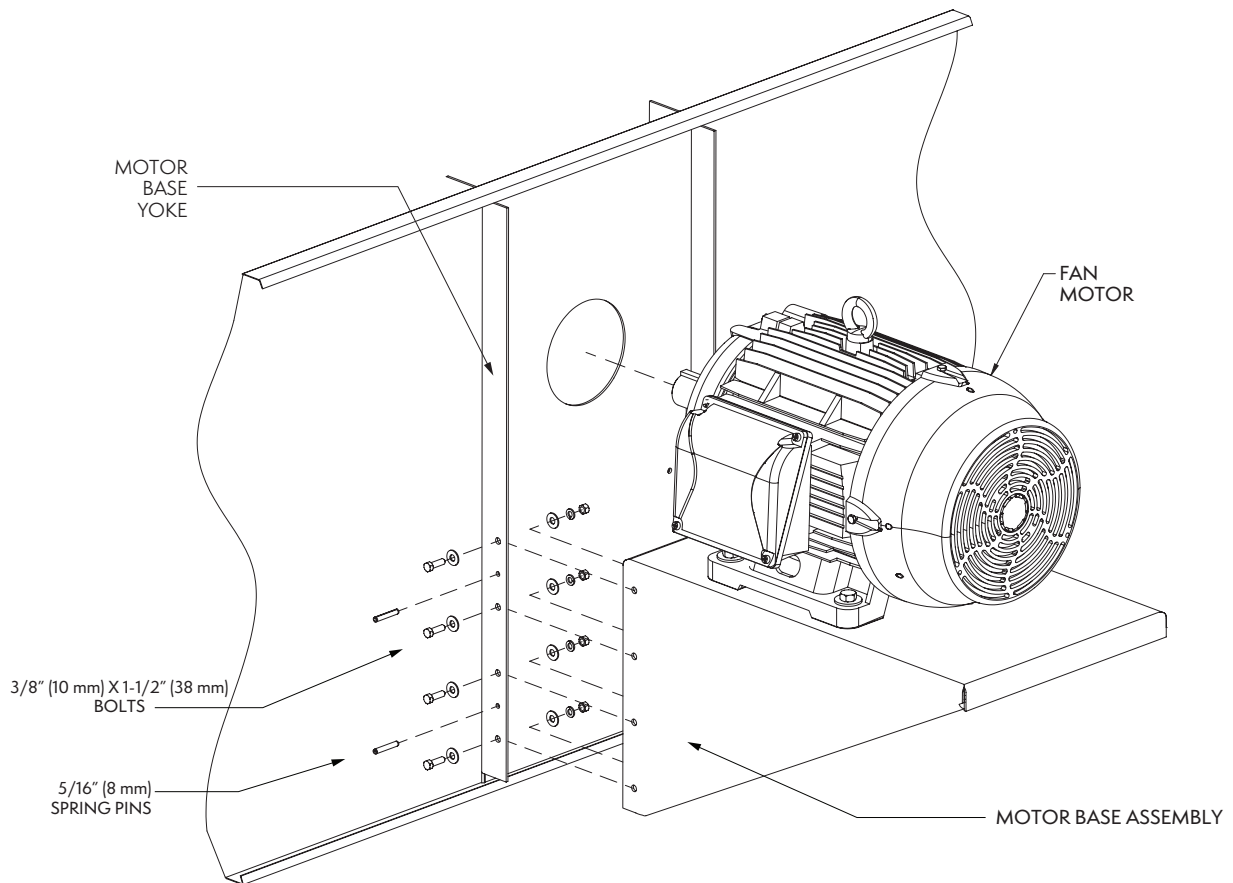

Figure 42 – External Motor Installation for Gear Drive Applications
1. Mount the motor base assembly to the motor base yoke using (4) 3/8" (10 mm) x 1-1/2" (38 mm) grade 5 bolts, flat washers, lock washers, and nuts on each side of the motor base assembly. Do not fasten any hardware until step 2 is complete.
2. In addition to the grade 5 bolts, install (2) 5/16" (8 mm) spring pins on each side of the motor base assembly as shown in **Figure 42**.